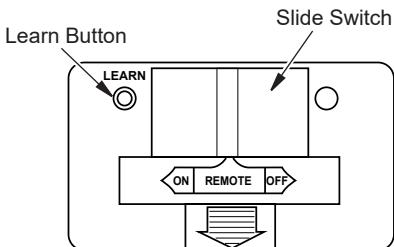

Figure 20 - Receiver
1. Place the slide switch on the receiver in the remote position (see Figure 20).